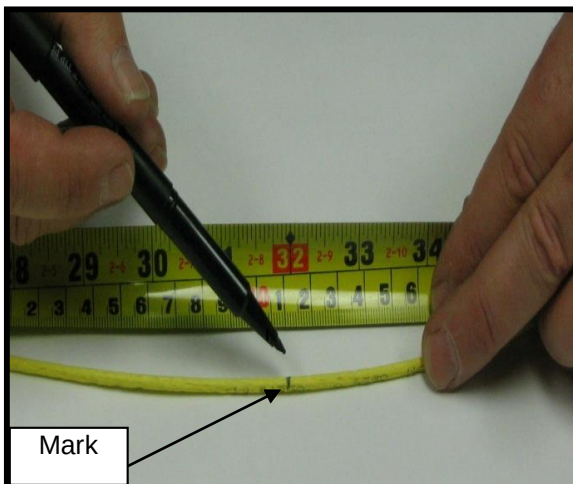

Figure 11
8.2 Use a felt tip pen to mark the Fiber Bundle outer PEF jacket at the appropriate location for jacket removal. **See Fig. 11.**